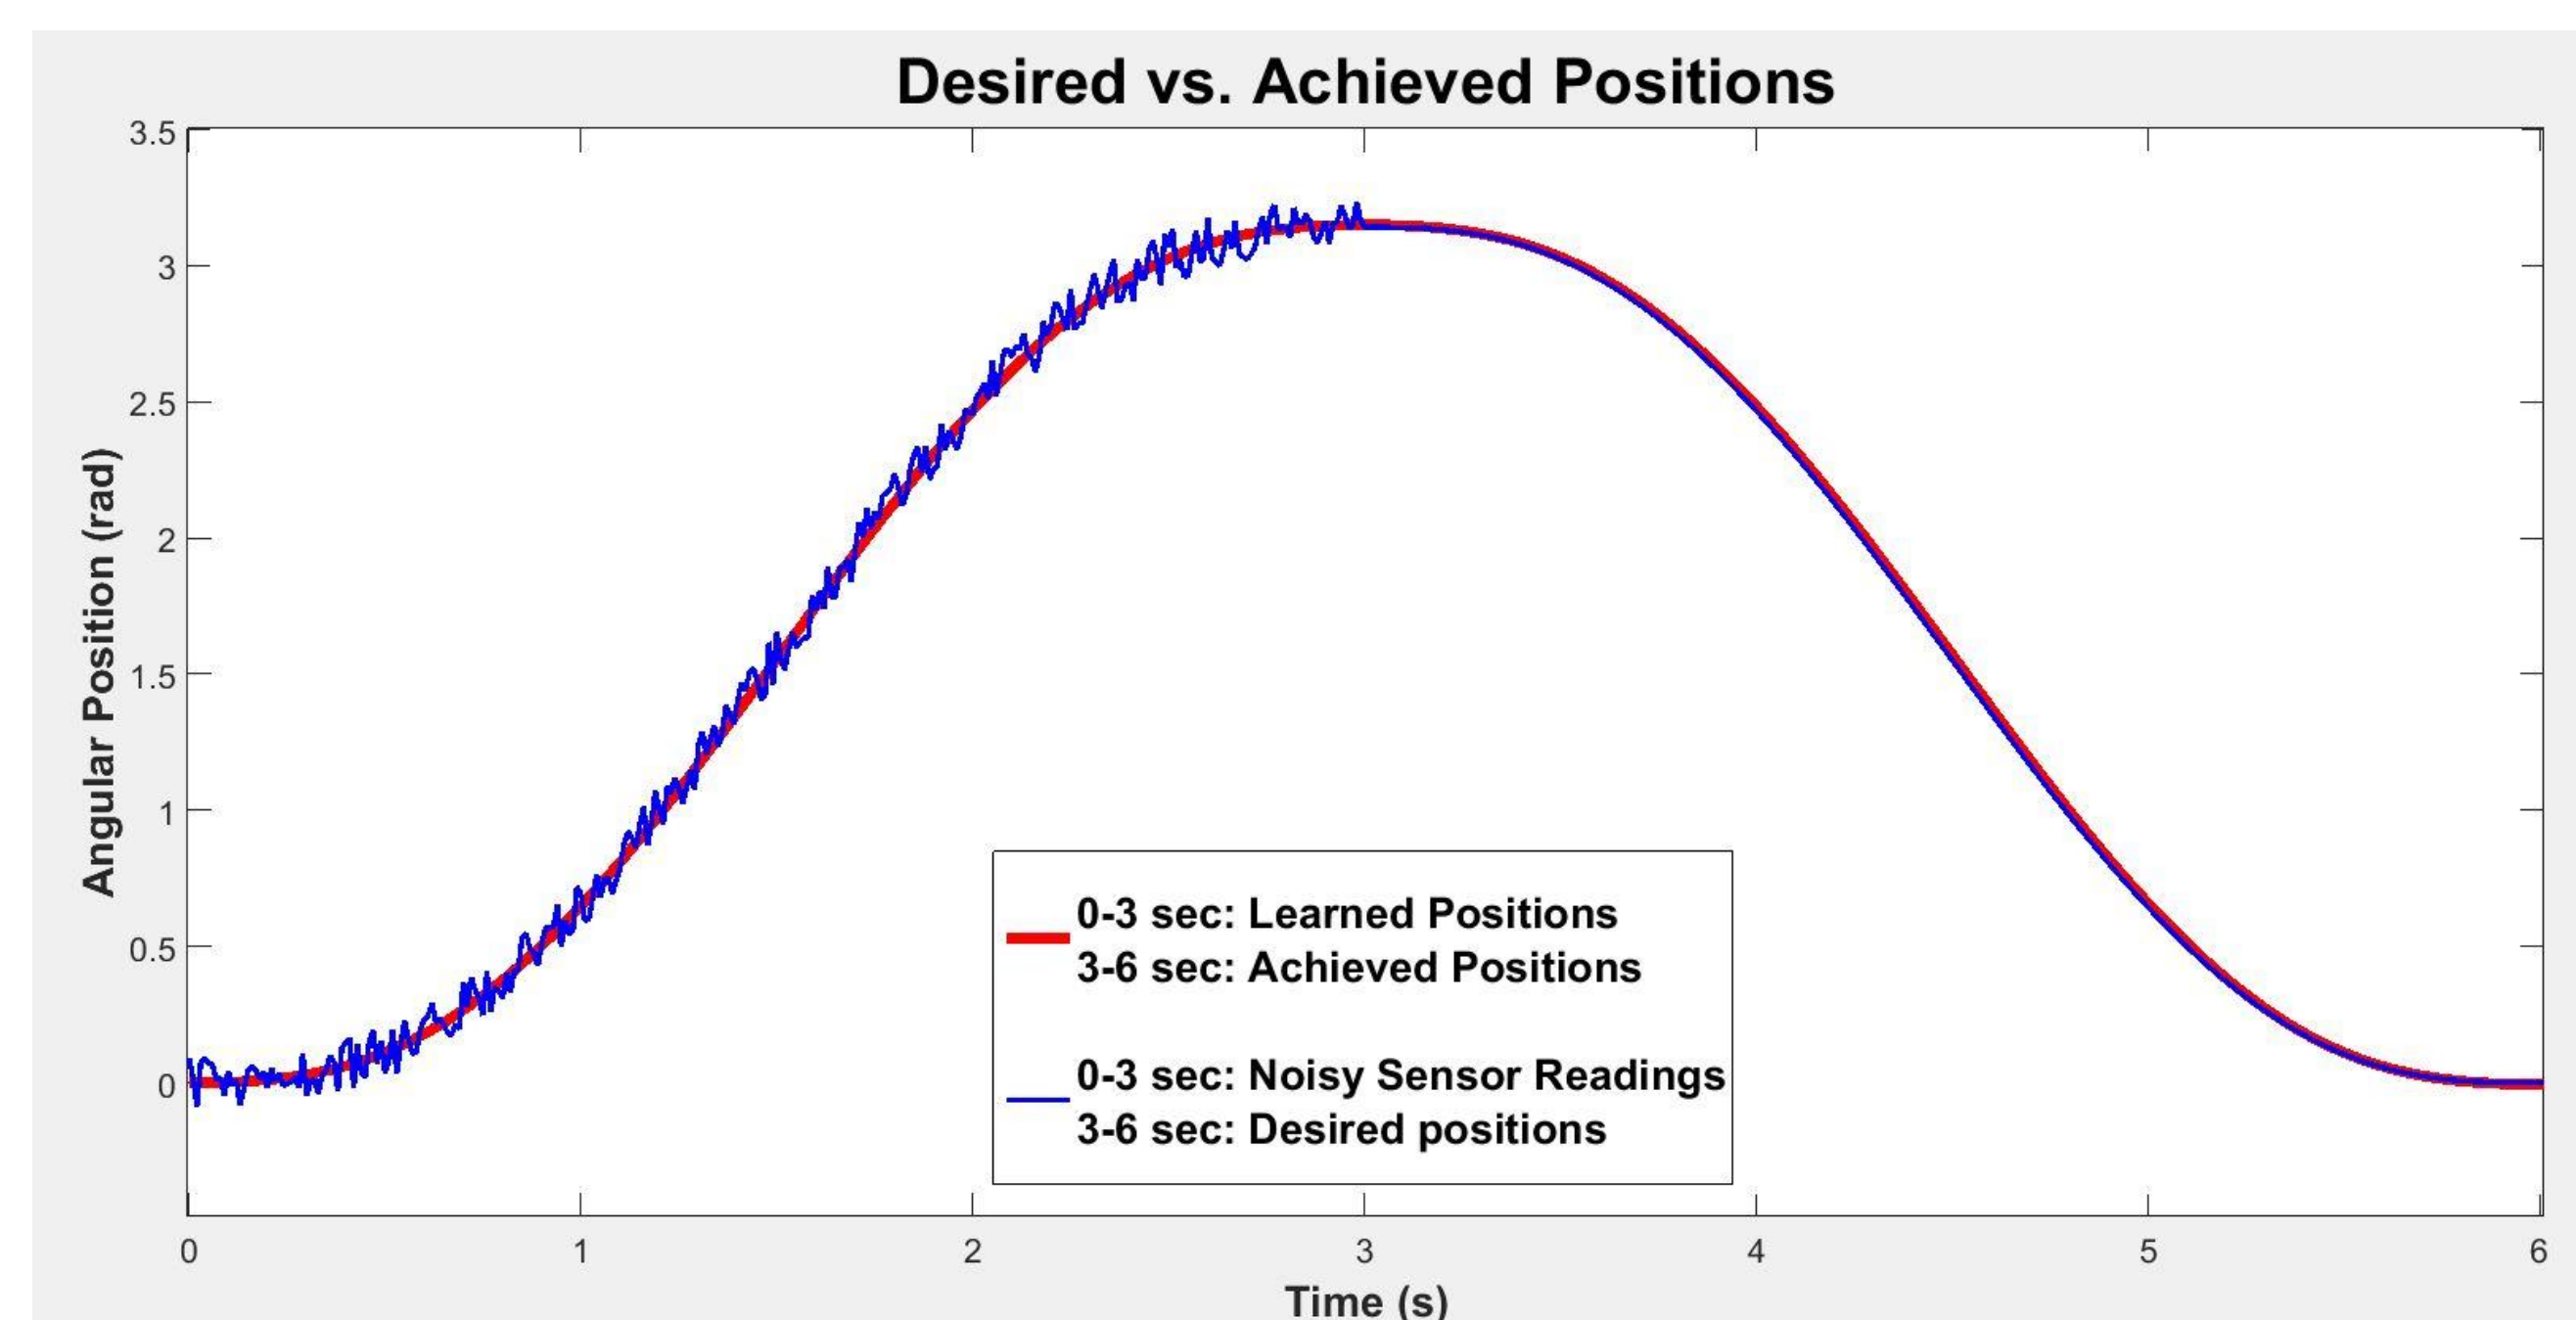

Figure 3: Positions Achieved with GPR Control
- Use the learned model to control the pendulum along a new trajectory (π to 0 radians) (*Figure 3*, 3-6 seconds).
- GPR predictions were very accurate compared to the desired positions (*Figure 3*).